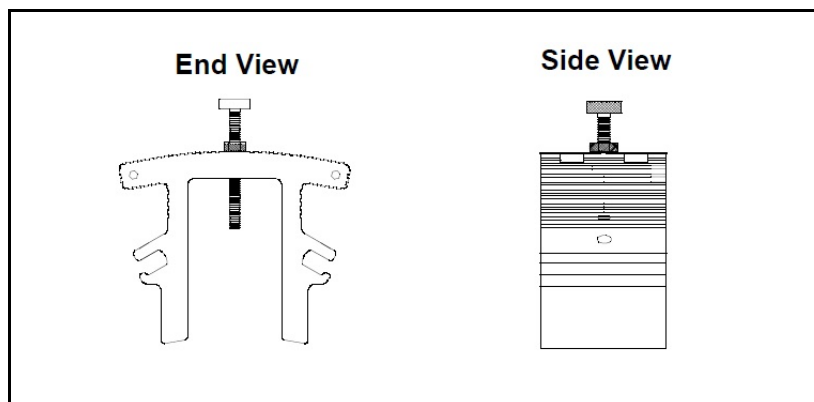

**Figure 30: Completed UCF Installations with Transducers**
5. Repeat Steps 1-4 to mount the other transducer in the fixed short block. See Figure 30 on the following page for completed typical UCF installations.